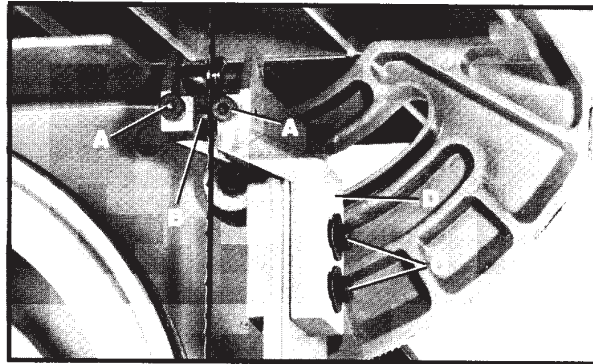
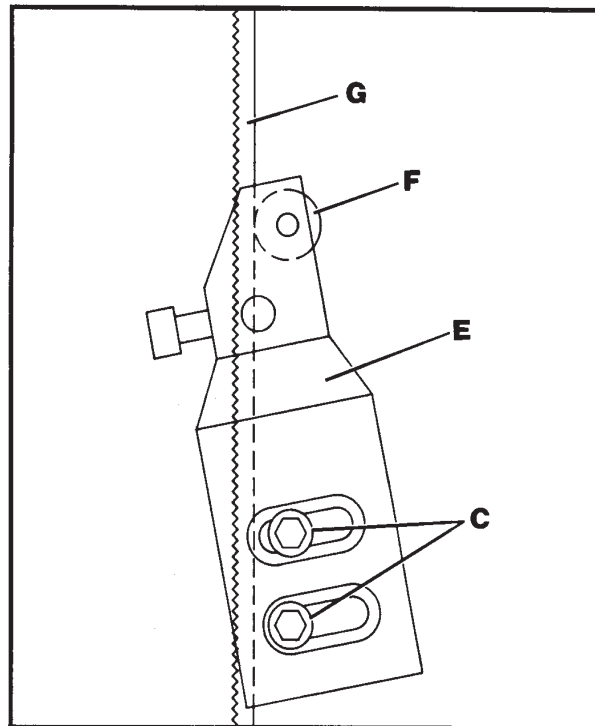

Fig. 23
Fig. 24
2. Loosen the two screws (A) Fig. 23, and adjust the blade guides, one of which is shown at (B), as close as possible to the sides of the saw blade, being careful not to pinch the blade. Then tighten the two screws (A).
3. Loosen two screws (C) Fig. 23, and move the complete blade guide bracket (D) in or out until the front edge of the guides (B) is just behind the "gullets" of the blade teeth. Then tighten the two screws (C).
4. Loosen two blade guide screws (A) Fig. 23.
5. Loosen two screws (C) Fig. 23, and tilt the entire blade guide bracket (E) Fig. 24, forward as shown until blade support bearing (F) is approximately 1/32" behind rear edge of saw blade (G). Tighten two screws (C) Fig. 24.
6. Adjust the blade guides, one of which is shown at (B) Fig. 23, as close as possible to the sides of the saw blade, being careful not to pinch the blade. Tighten two blade guide screws (A) Fig. 23.